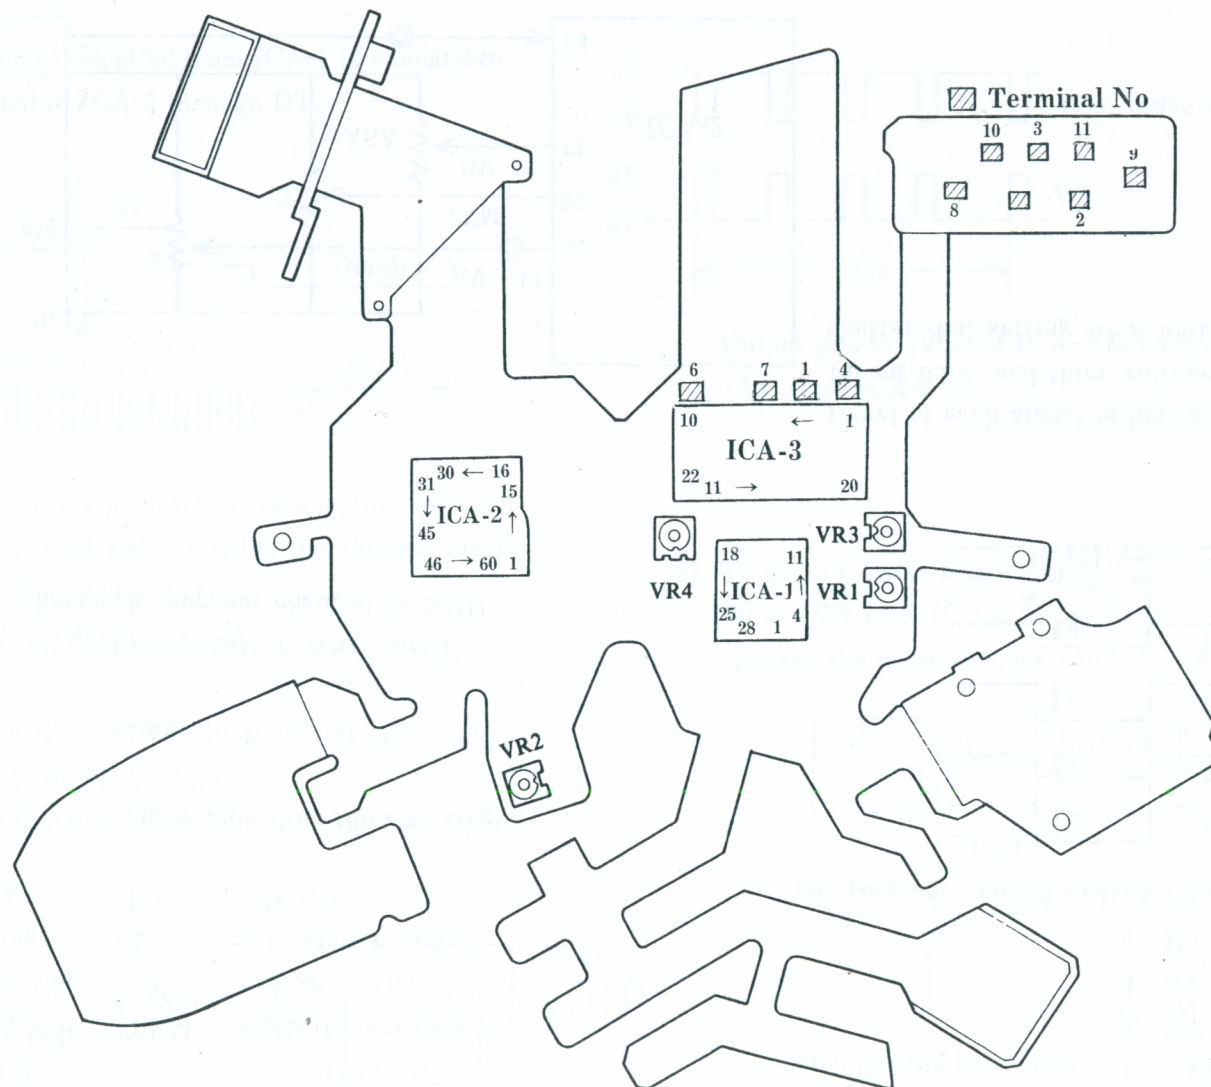

Fig. 60
- 7) Turn VR1 shown in Fig. 60 and adjust EV to "0".
6. MAIN FUNCTION OF ICA-1, ICA-2 & ICA-3 (See Fig 60,63,64)